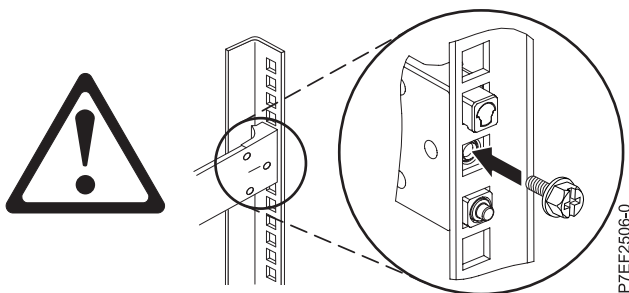

Figure 21. Reinstalling the screw
4. Reinstall the screw that was removed in step 2 on page 23, as shown in Figure 21.